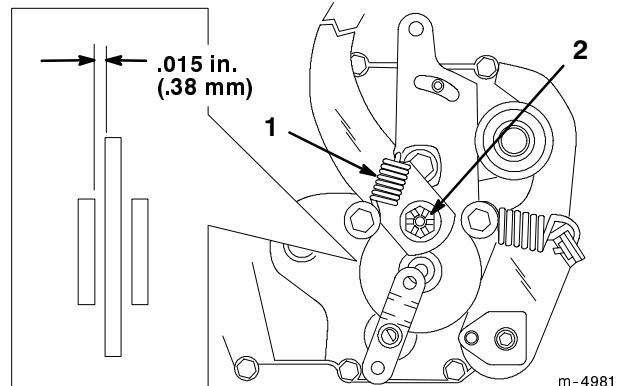

Figure 21
The brake is on the right side of the rear axle, inside the rear tire (Fig. 21). If the parking brake does not hold securely, an adjustment is required.
2. Remove the brake arm spring (Fig. 21).
3. Remove the cotter pin securing the brake adjusting nut and slightly loosen the nut (Fig. 21).
4. Insert a 0.015 in. (.38 mm) feeler gauge between the brake disc and brake puck (Fig. 21). Tighten the nut until slight resistance is felt on the feeler gauge when sliding it in and out.